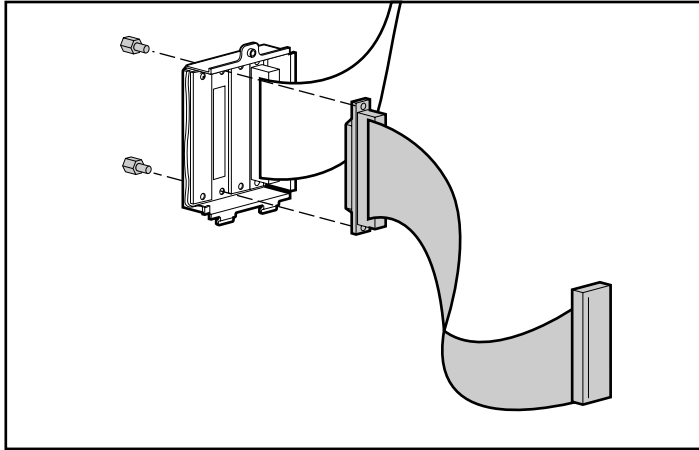

Figure 6-10. Attaching the SCSI Cable to the Connector Panel
15. Locate the SCSI ribbon cable, part number 199595-002, supplied in the Duplexing Option Kit. Orient the external connector (with the mounting flange) like the SCSI connector already installed in position 1 on the connector panel. Secure the connector in the uncovered hole in position 3 using the two threaded screwlocks provided with the Duplexing Option Kit. See Figure 6-10.